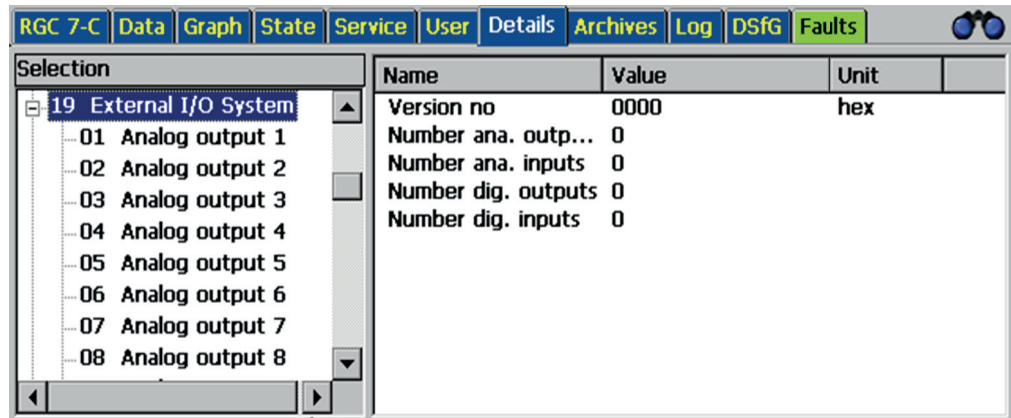

Fig. 26: Menu Detail – 19 External I/O system
- Display of the number of available analogue inputs and outputs and digital inputs and outputs of the additional interface modules (Wago) (cf. fig. 26).